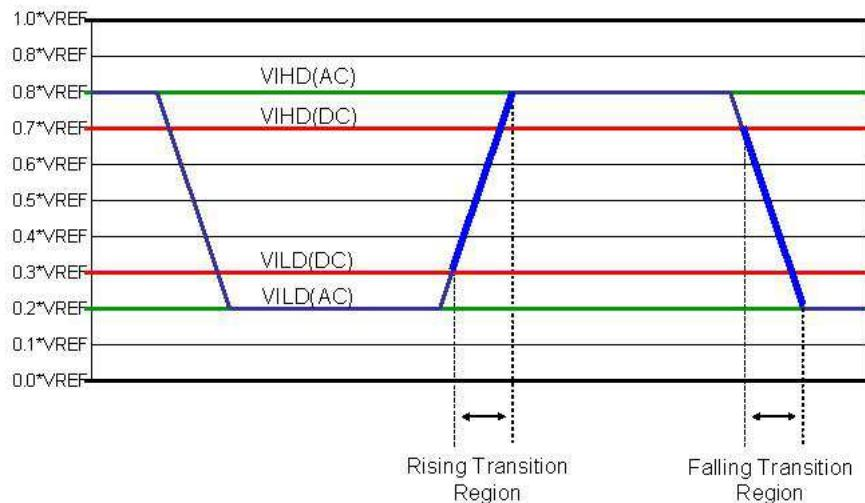

Figure 1. Low Speed (LS) I/O Input Thresholds
(3) Signal group 1 output slew rate for rising edge is measured between $V_{IL(DC)}$ to $V_{IH(AC)}$.
(4) Signal group 1 output slew rate for falling edge is measured between $V_{IH(DC)}$ to $V_{IL(AC)}$.
(5) Signal group 1: See Figure 1.
(6) Signal groups 2 and 3 output slew rate for rising edge is measured between $V_{IL(AC)}$ to $V_{IH(AC)}$.